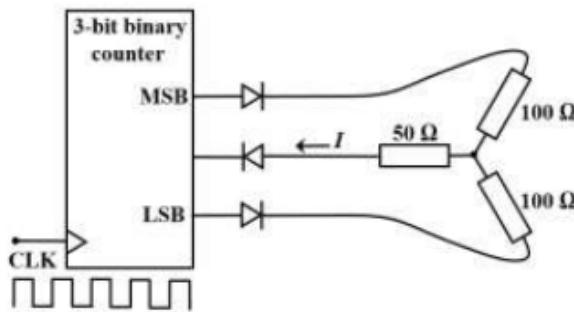

Fig. 5.4
4. For the 3-bit binary counter shown in Fig. 5.4, the output increments at every positive transition in the clock (CLK). Assume ideal diodes and the starting state of the counter as 000. If output high is 1V and output low is 0V, find the current I (in mA) flowing through the 50Ω resistor during the 5th clock cycle (up to one decimal place). (GATE IN 2018)